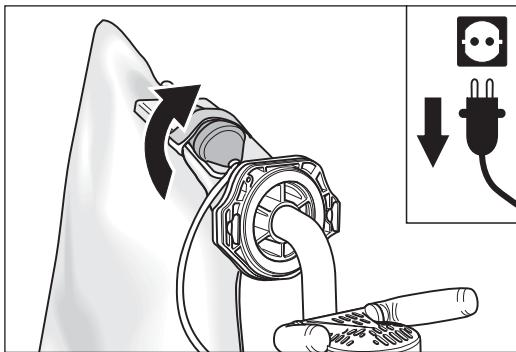

Fig. 21 Remove the coupler from the Velcro loop on the dust bag.
- 2 Remove the extension cable coupler from the Velcro loop on the dust bag (fig. 21).